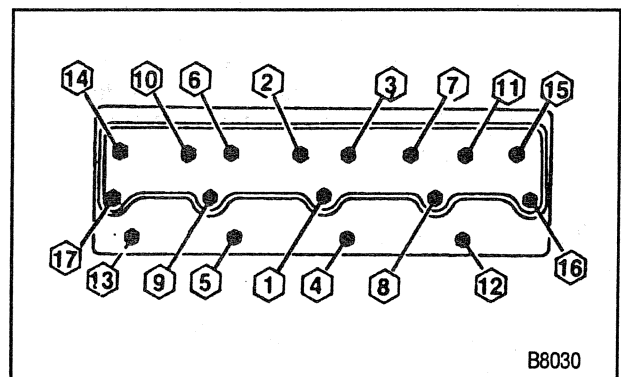

Figure 18—Head Bolt Tightening Sequence
### ↔ Install or Connect (Figure 18)
- A. Using the sequence shown in figure 18, tighten all bolts to 25 N.m (20 lbs. ft.).